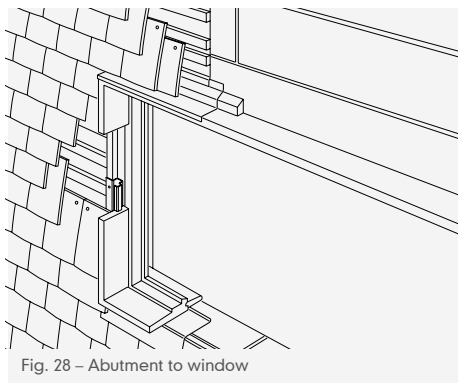

Fig. 28 – Abutment to window
- 6 When meeting timber cladding or a window jamb, turn flashing behind cladding or return into the jamb (Fig. 28).